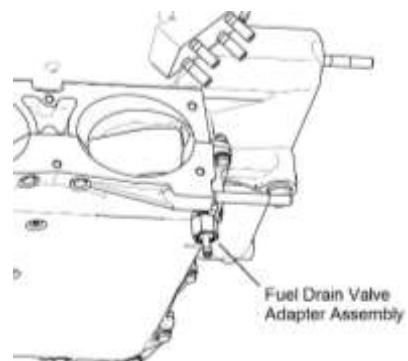

Figure 3
9. Install the fuel drain valve adapter assembly (shipped with the engine as a “Ship Loose Part”) in the induction system (Figure 3). Refer to Chapter 72-80 in the **TEO-540-C1A Series Engine Maintenance Manual** for installation instructions.